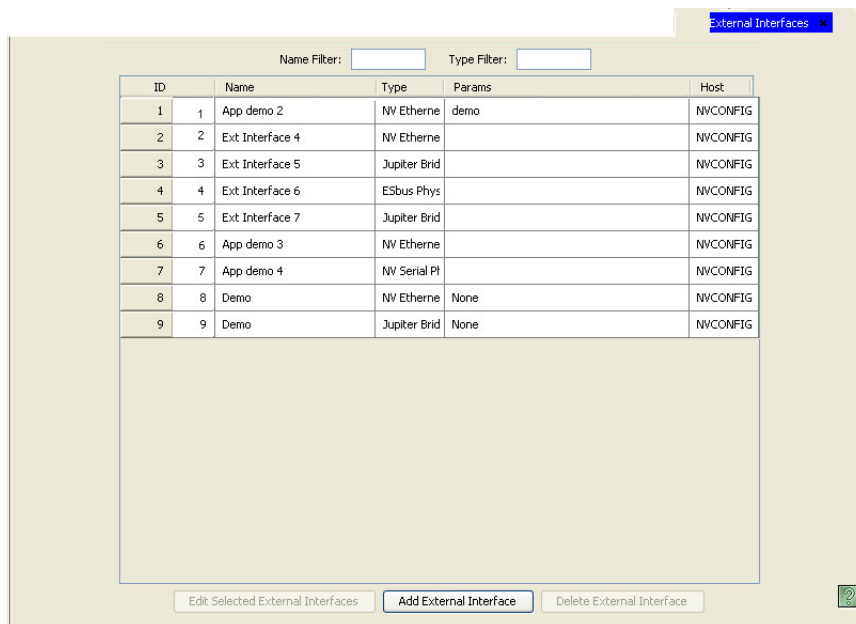

Figure 14-5. External Interfaces Page
- 2 From the Navigation area, select the ‘Configuration’ pane and then ‘External Interfaces’. The ‘External Interfaces’ page displays, as shown in Figure 14-5. All external interfaces currently defined in the system are listed.